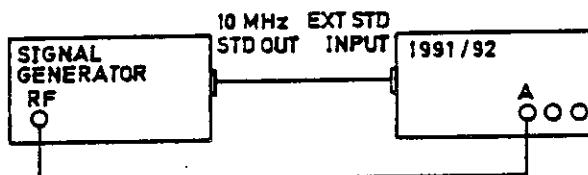

Figure 6.22 – Connections for Channel A Input System Adjustment
- d. Connect the test equipment as shown in Figure 6.22